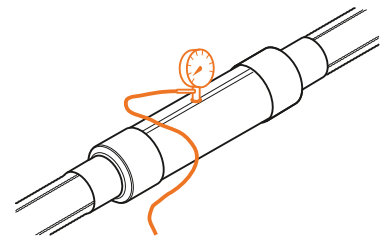

Fig. B11.1.12
11. Drill a 23 mm diameter hole in the area marked for filling the sleeve with PUR (Fig. B11.1.12).
12. Spray soapy water solution around the joint areas. Connect the air pump adaptor with pressure gauge into the hole drilled in step 11 and connect the air pump (Fig. B11.1.12). Pump the air pressure in the sleeve up to 0.3 Bar, and visually inspect all joint areas for soap bubbles appearing. If necessary, spray additional soapy water solution. If bubbles appear, the Heat Shrink Sleeve joint is not sufficiently tight. To fix this, remove the air pressure from the joint and apply additional heat to the heat shrink band. Repeat the pressure test process to verify that the joint is tight. If a leak still remains, heat shrink jacket repair bands can be used. Repeat the air pressure test to verify joint tightness.